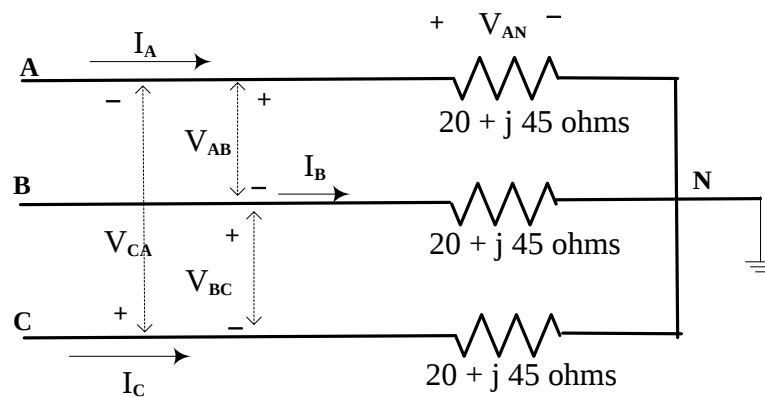

Fig.6.
6. A three-phase, Y-connected balanced load is shown in Fig.6. The reference line-to-line voltage $V_{AB} = 240 \angle 0^\circ$ volts RMS Determine
- (a) the power factor (PF) of the load